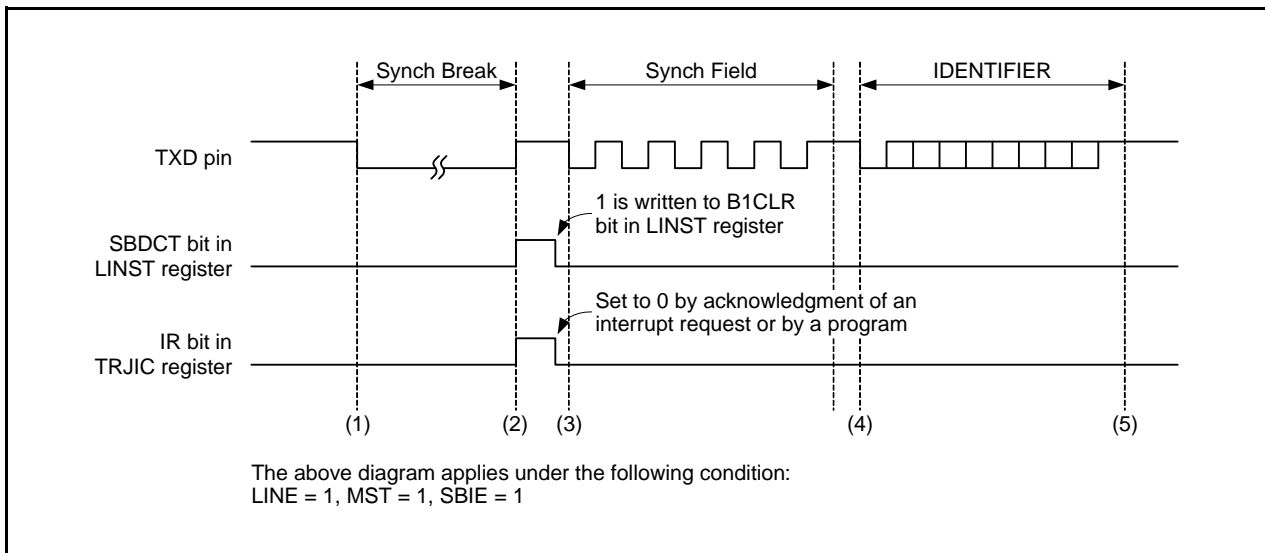
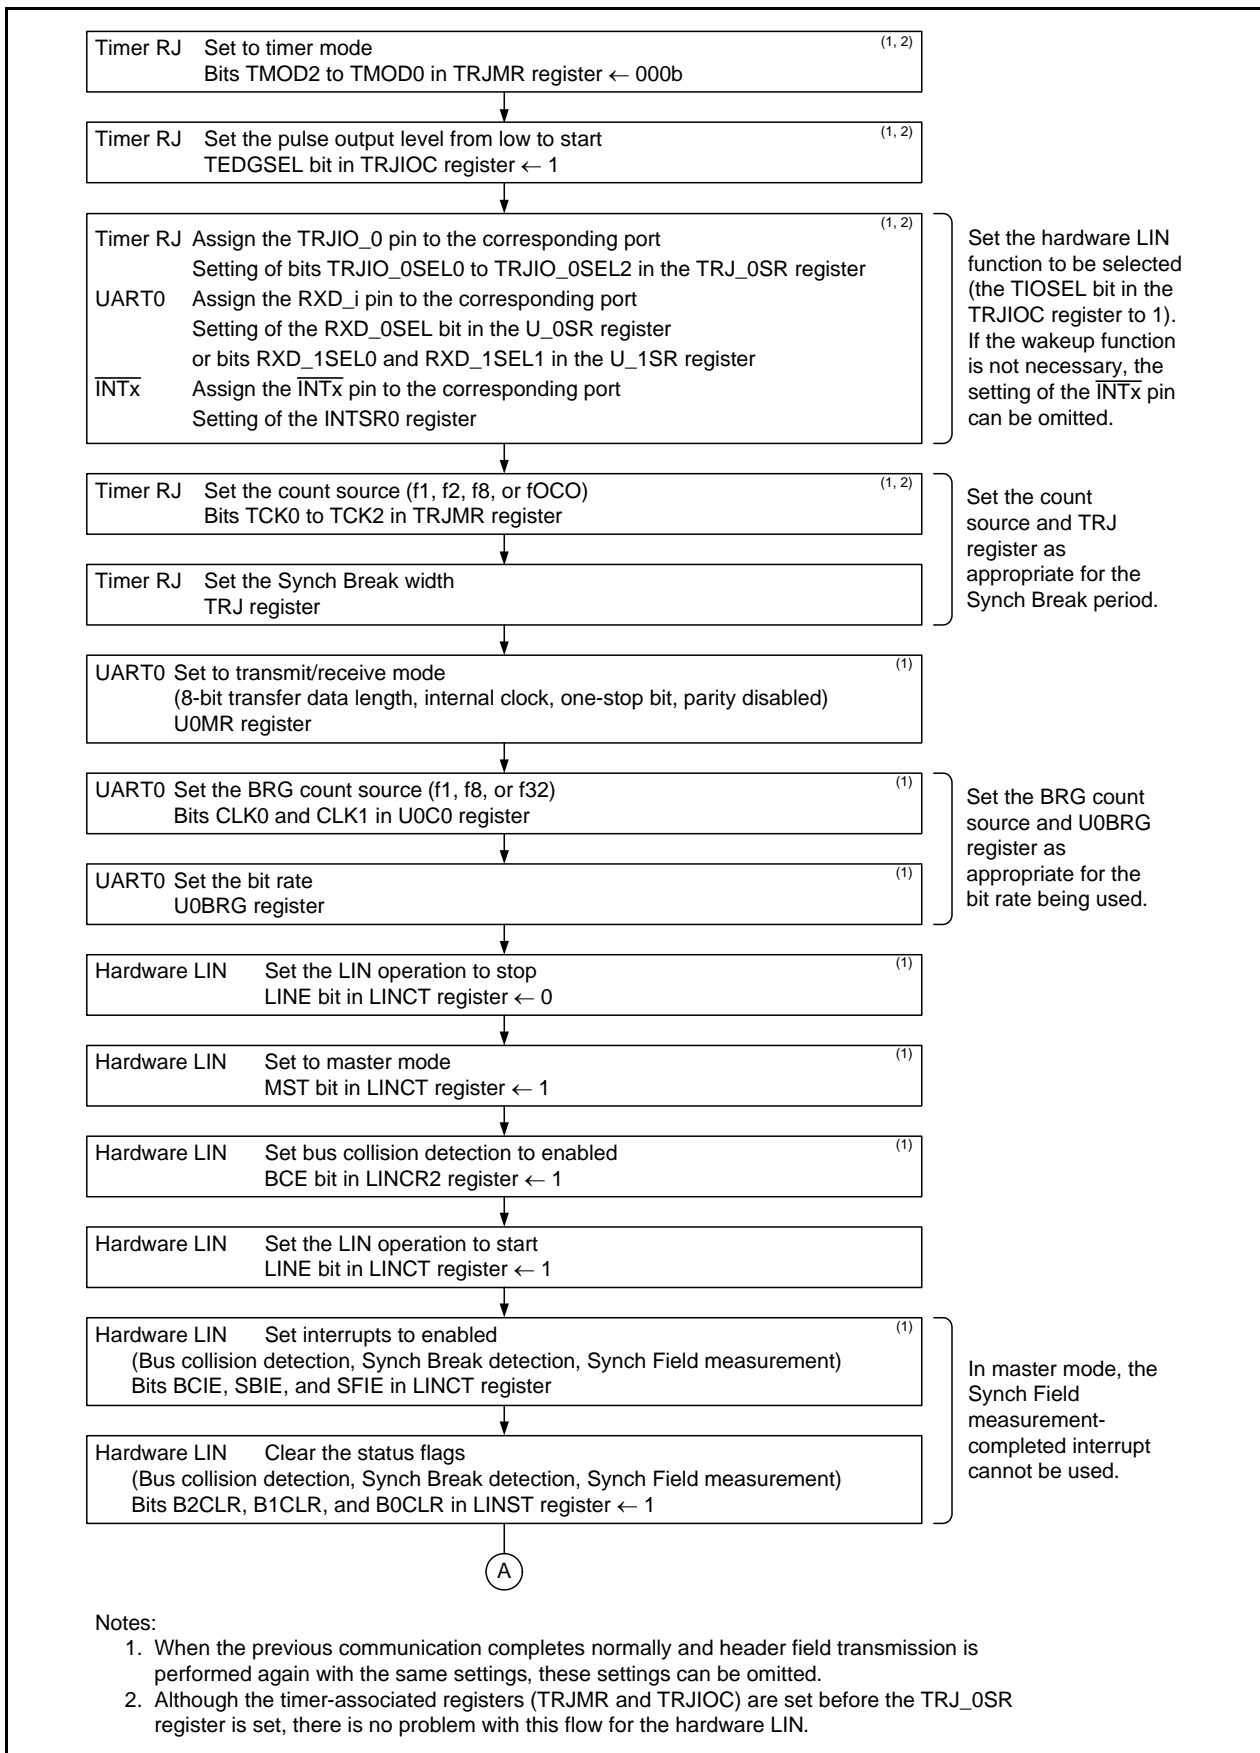
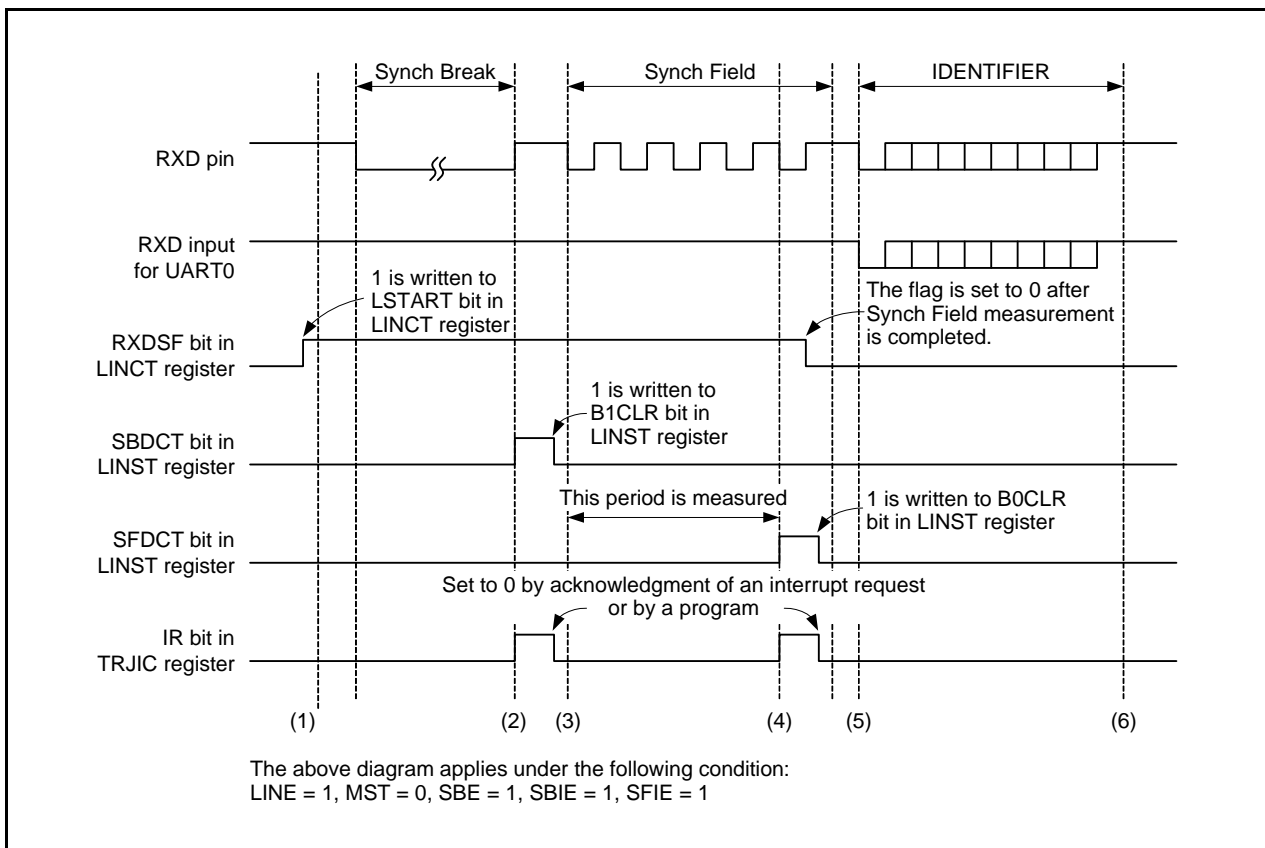
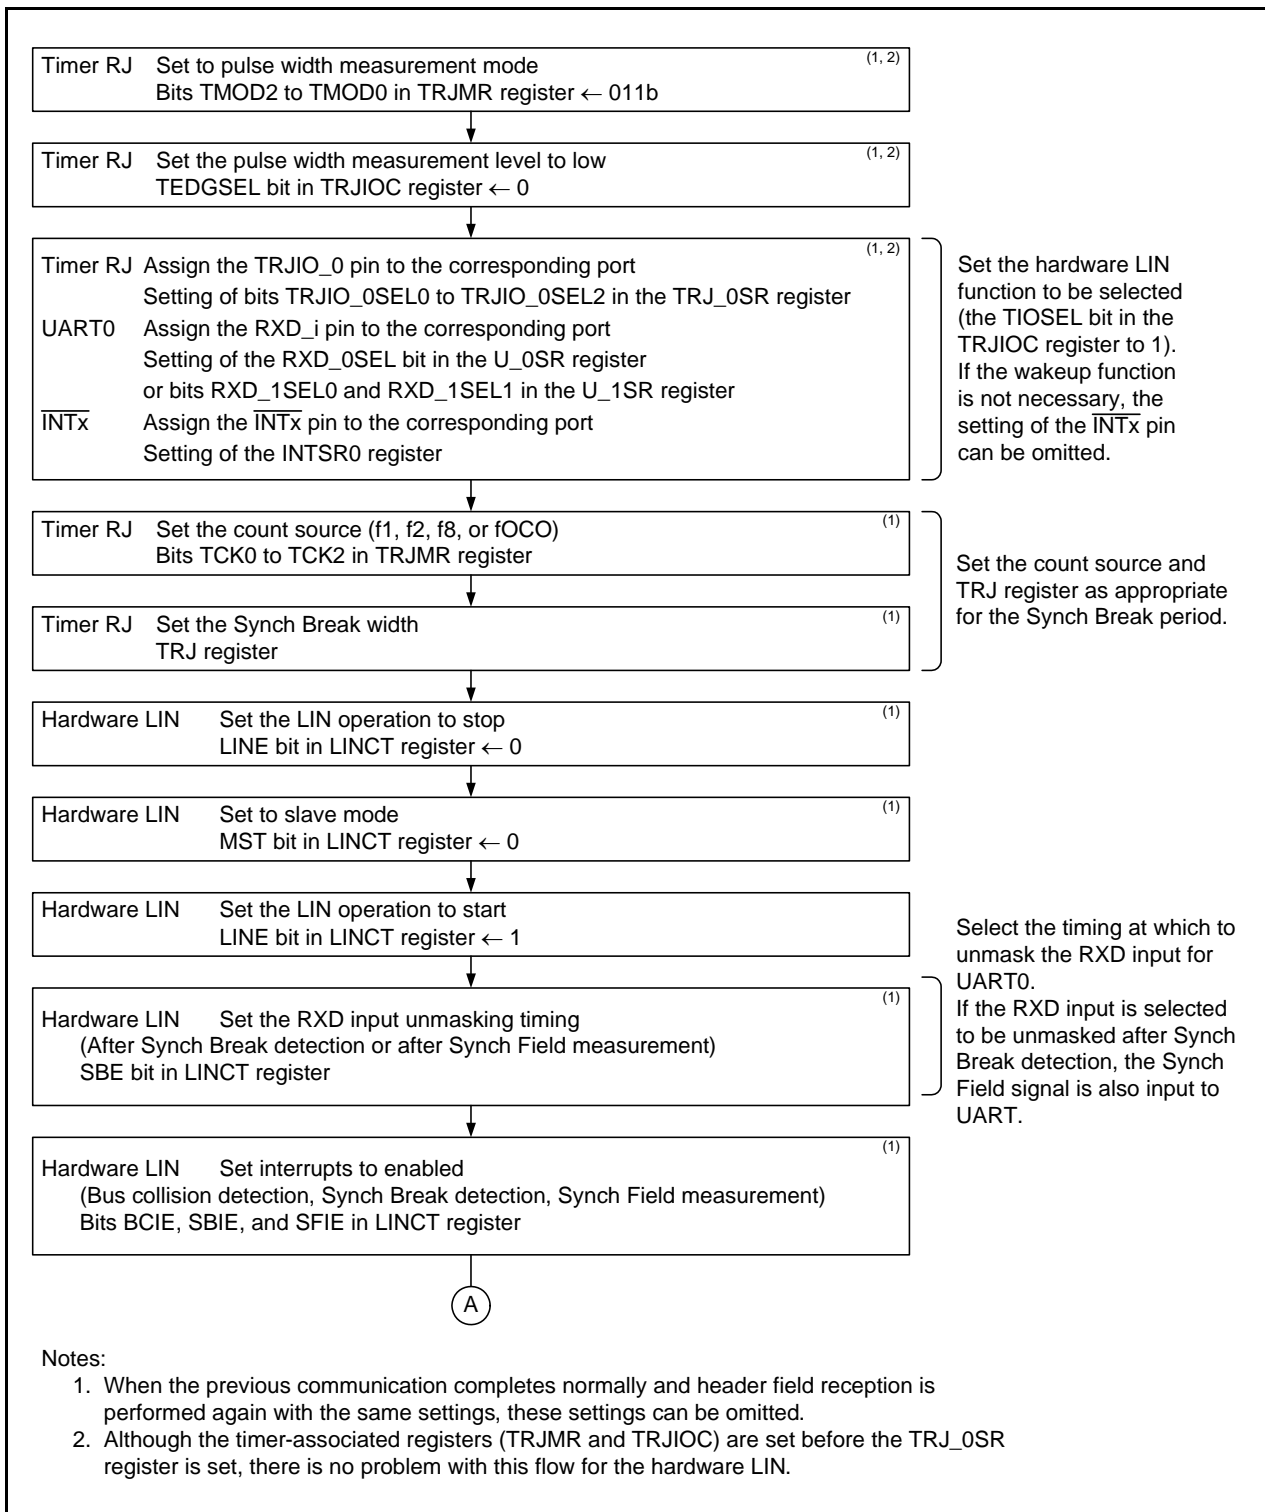

Figure 22.2 Operation Example during Header Field Transmission
Figure 22.3 Header Field Transmission Flowchart Example (1) (i = 0 or 1, x = 1 or 2)
Figure 22.5 Operation Example during Header Field Reception
Figure 22.6 Header Field Reception Flowchart Example (1) (i = 0 or 1, x = 1 or 2)
3. Inputs to timer RJ and UART are disabled immediately after the LINE bit is set to 1 (LIN operation starts). Refer to **Figures 22.3 and 22.4 Header Field Transmission Flowchart Examples** and **Figures 22.6 to 22.8 Header Field Reception Flowchart Examples**.
Figure 22.2 shows an Operation Example during Header Field Transmission master mode. Figures 22.3 and 22.4 show Header Field Transmission Flowchart Example.
Figure 22.5 shows an Operation Example during Header Field Reception in slave mode. Figures 22.6 to 22.8 show Examples of Header Field Reception Flowchart.